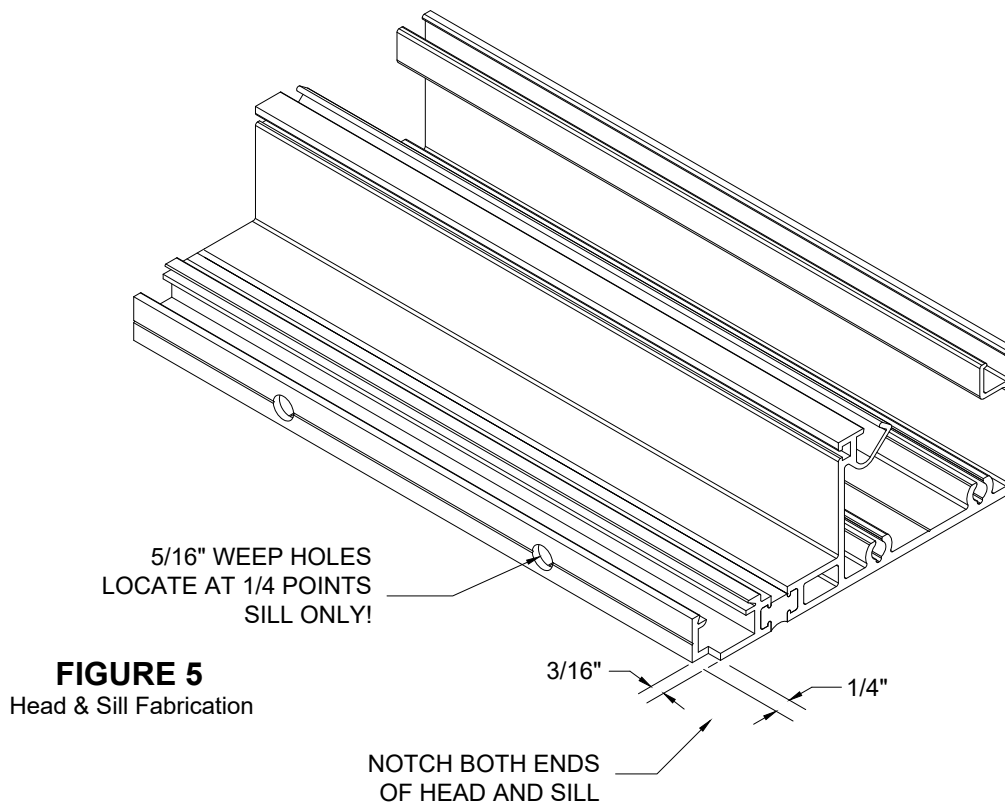

FIGURE 5
- 1.5 Drill 5/16" diameter weep holes at 1/4 points along "V" groove in sill member as shown in FIGURE 5, page 7.
- 1.6 Notch each end of the head and sill. This notch will be required to allow installation of vertical face members. See FIGURE 5, page 7.